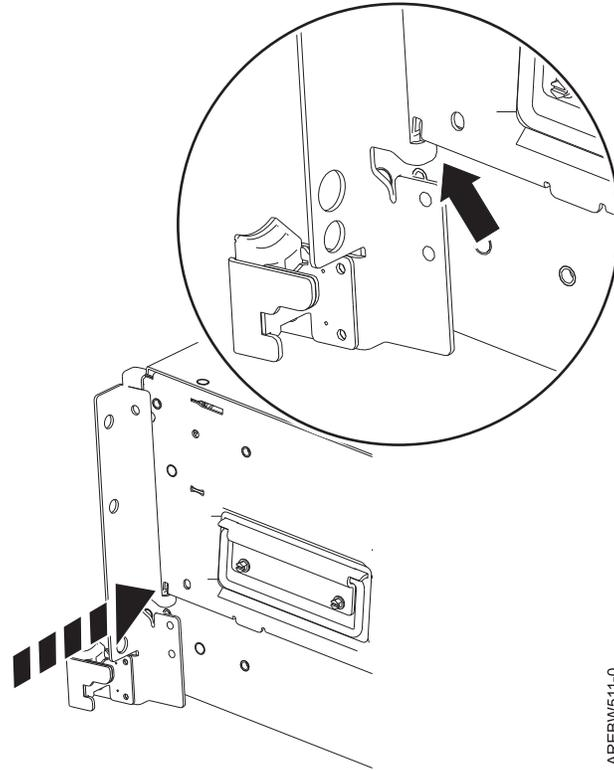

Figure 25. Align the bracket with the slot on the side of the system
- b. Align the bracket with the slot on the side of the system as shown in Figure 25 on page 35.